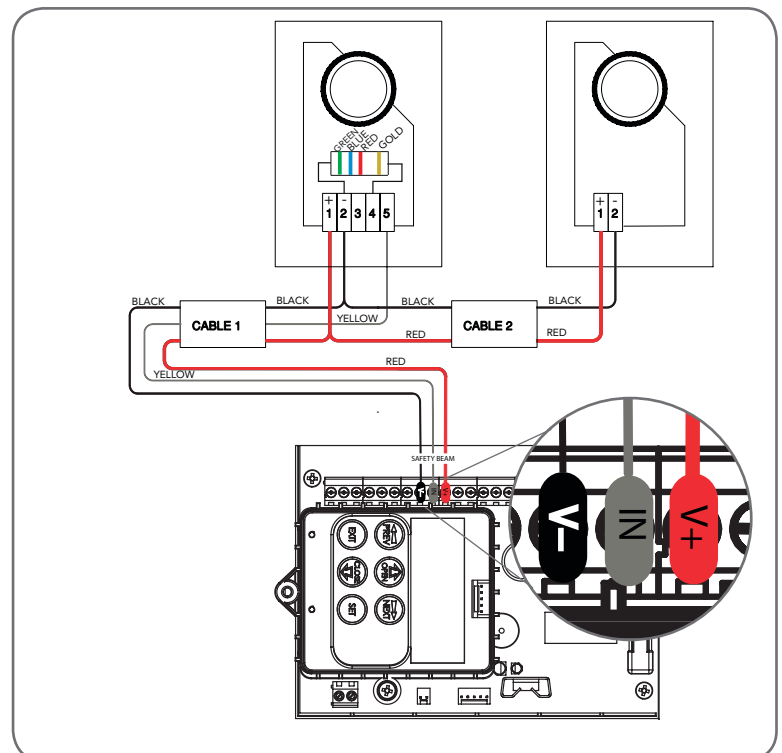

Fig 6.3
- Connect a Resistor 5k $\Omega$  ohms (Green Blue Red Gold) to number 2 (two) and 4 (four) terminal on the Safety-2 receiver (Fig. 6.3). Make sure to align the beams correctly. Follow the manual supplied with the Safety Beams.